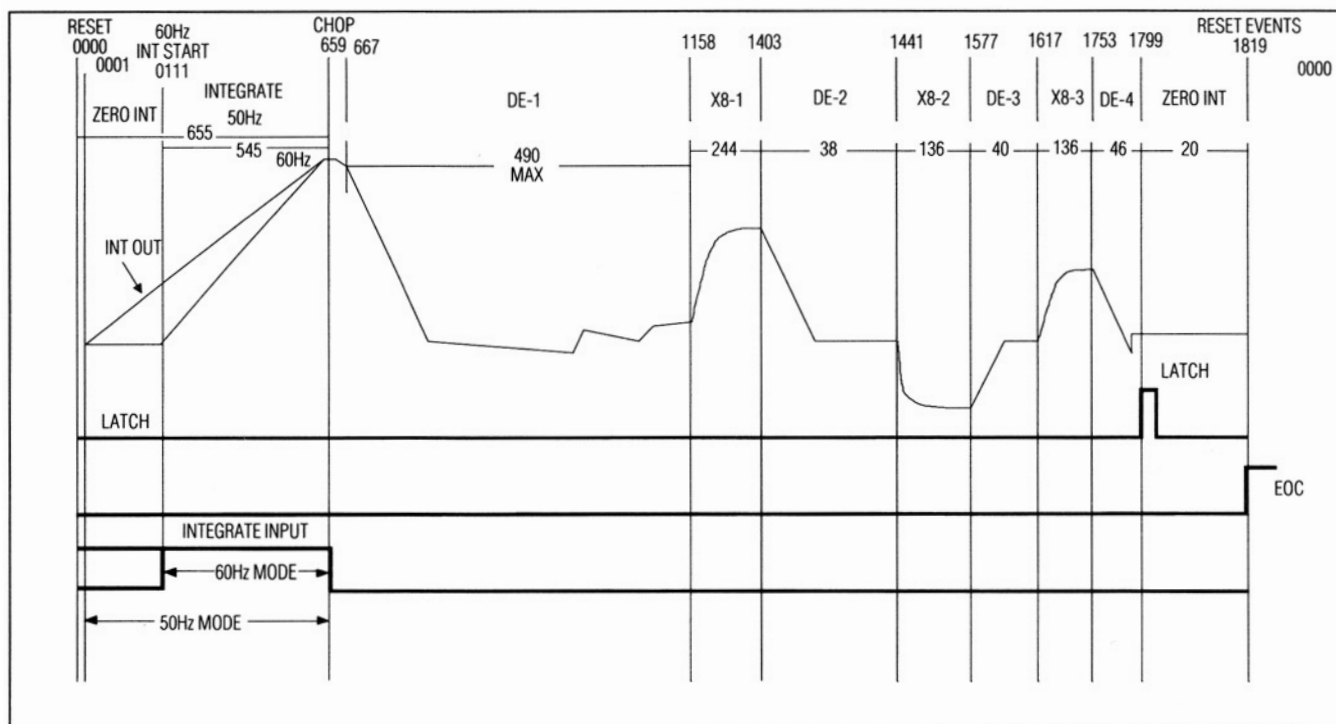

Figure 8. Conversion Timing
2. Poll either the EOC status register bit or the EOC line to determine conversion end and start time for the next conversion. EOC becomes 1 at conversion end at count 0000 of the conversion counter (Figure 8).
The zero-integrate phase zeros out the integrator to prepare for the next integration (Figure 8). This phase occurs at the beginning and end of each conversion. At power-up or in the hold mode prior to a conversion, the MAX135 continues to zero integrate until a conversion starts. When a conversion starts in 60Hz mode, another 111 clocks of zero integrate are completed before a conversion begins. In 50Hz mode, only one additional zero integrate is performed before the conversion starts. An additional 20 clocks of zero integrate occur at each conversion end.